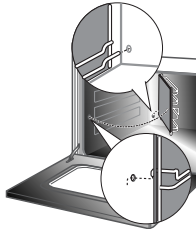

Fig.1
- Remove the pizza plate and then the base to which it is fixed (Fig. 1). Lift the base a few mm and then extract it from the oven.
- 4 Remove the side runners (fig.1);
The appliance is designed for building-in to cabinets made from any heat-resistant material. Comply with the dimensions shown in figures 1, 2, and 3. When installing under worktops, comply with the dimensions shown in figure 1-3. When installing under worktops incorporating combined hobs, a gap of at least 110 mm must be left from any side wall, as shown in figure 1.
When installing in tall units, comply with the dimensions shown in figure 1-2, bearing in mind that the top/rear of the unit must have an opening 80-90 mm deep. Screw the 2 screws **A** into the inside of the frame (fig. 1). For installation under counter-top hobs, make sure that the rear/bottom of the unit has an opening similar to that shown in figure 1 (ref. **B**). See the instructions supplied with the hob for the relative positioning and fixing procedures.